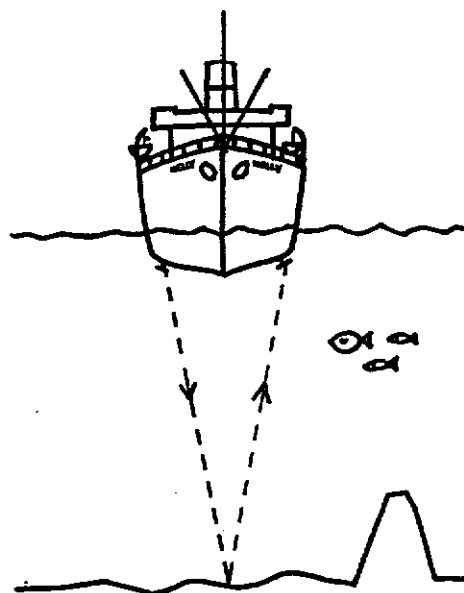

Fig. 196
Ships use a similar device to find the depth of the sea below them or to detect submarines or shoals of fish (Fig. 196). This echo sounding system, called *sonar*, produces ultrasonic waves electrically, using a vibrating crystal. If the wavelength of such waves was 0.1 foot what would be their approximate frequency? (23)